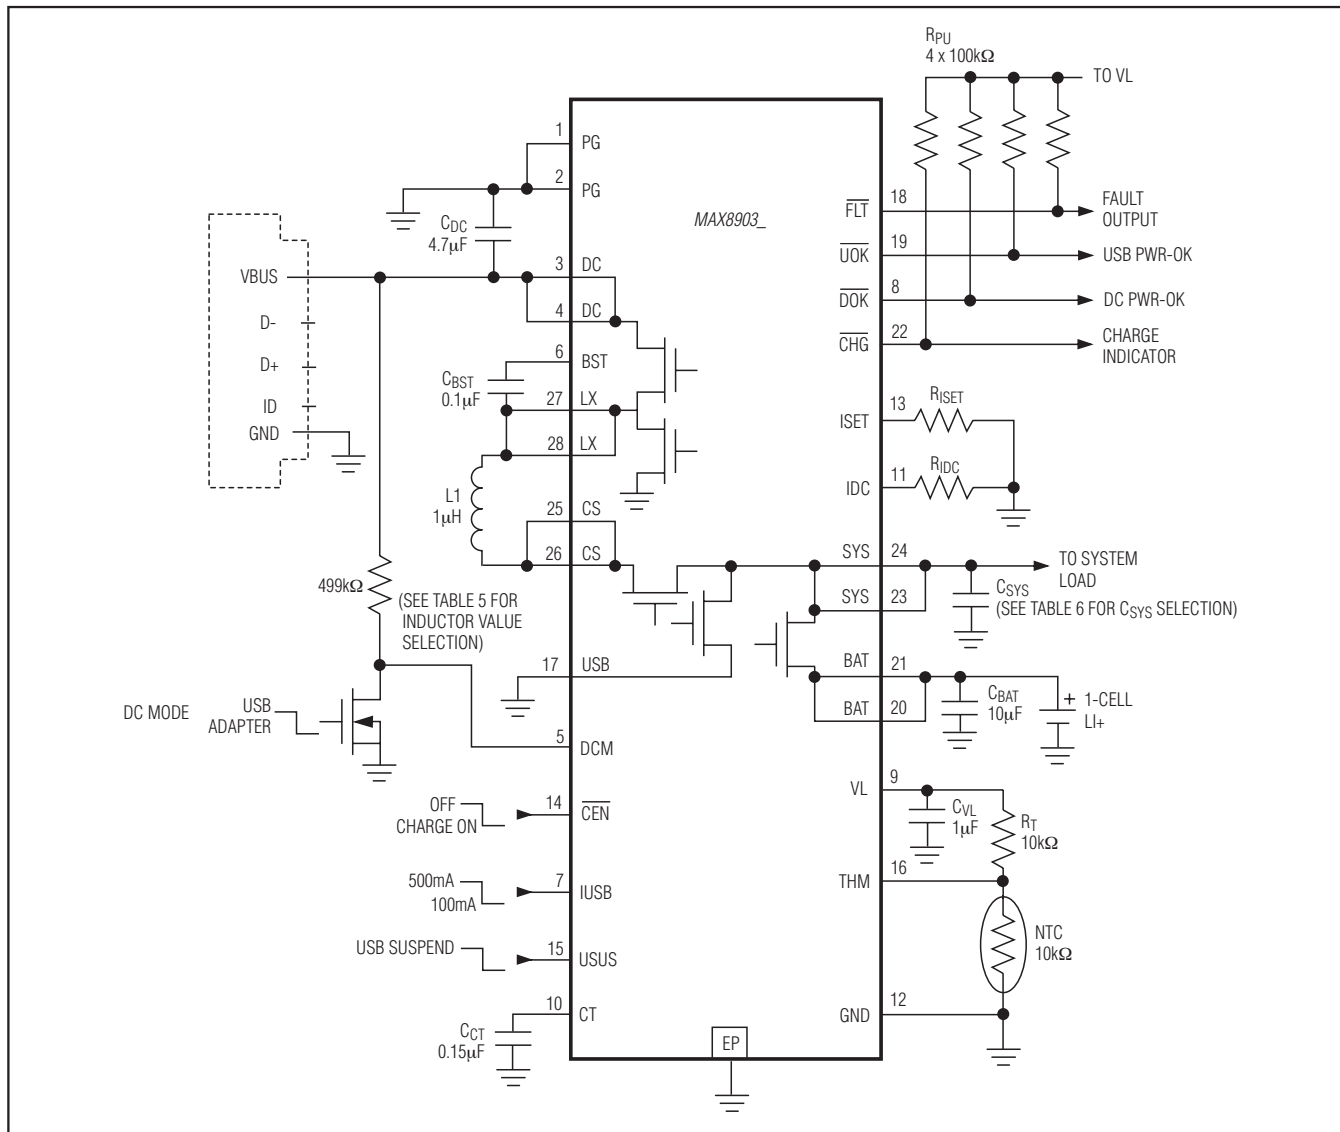

Figure 3. Typical Application Circuit Using a Mini 5 Style Connector or Other DC/USB Common Connector
circuit of Figure 3 shows a simple MOSFET and resistor on DCM to prevent any current from flowing from DCM through the internal diode to DC. This circuit of Figure 3 allows a microprocessor to drive the gate of the MOSFET to any state at any time.
An alternative to the simple MOSFET and resistor on DCM as shown in Figure 3 is to place a $1\text{M}\Omega$ resistor in series with the DCM input to the microprocessor. The microprocessor can then monitor the $\overline{\text{DOK}}$ output and make sure that whenever $\overline{\text{DOK}}$ is high DCM is also low. In the event that DCM is driven to a higher voltage than DC, the $1\text{M}\Omega$ series resistance limits the current from DCM through the internal diode to DC to a few μA .
***There is an internal diode from DCM (anode) to DC (cathode) as shown in Figure 1. If the DCM level needs to be set by a μP , use a MOSFET for isolation as shown in Figure 3.